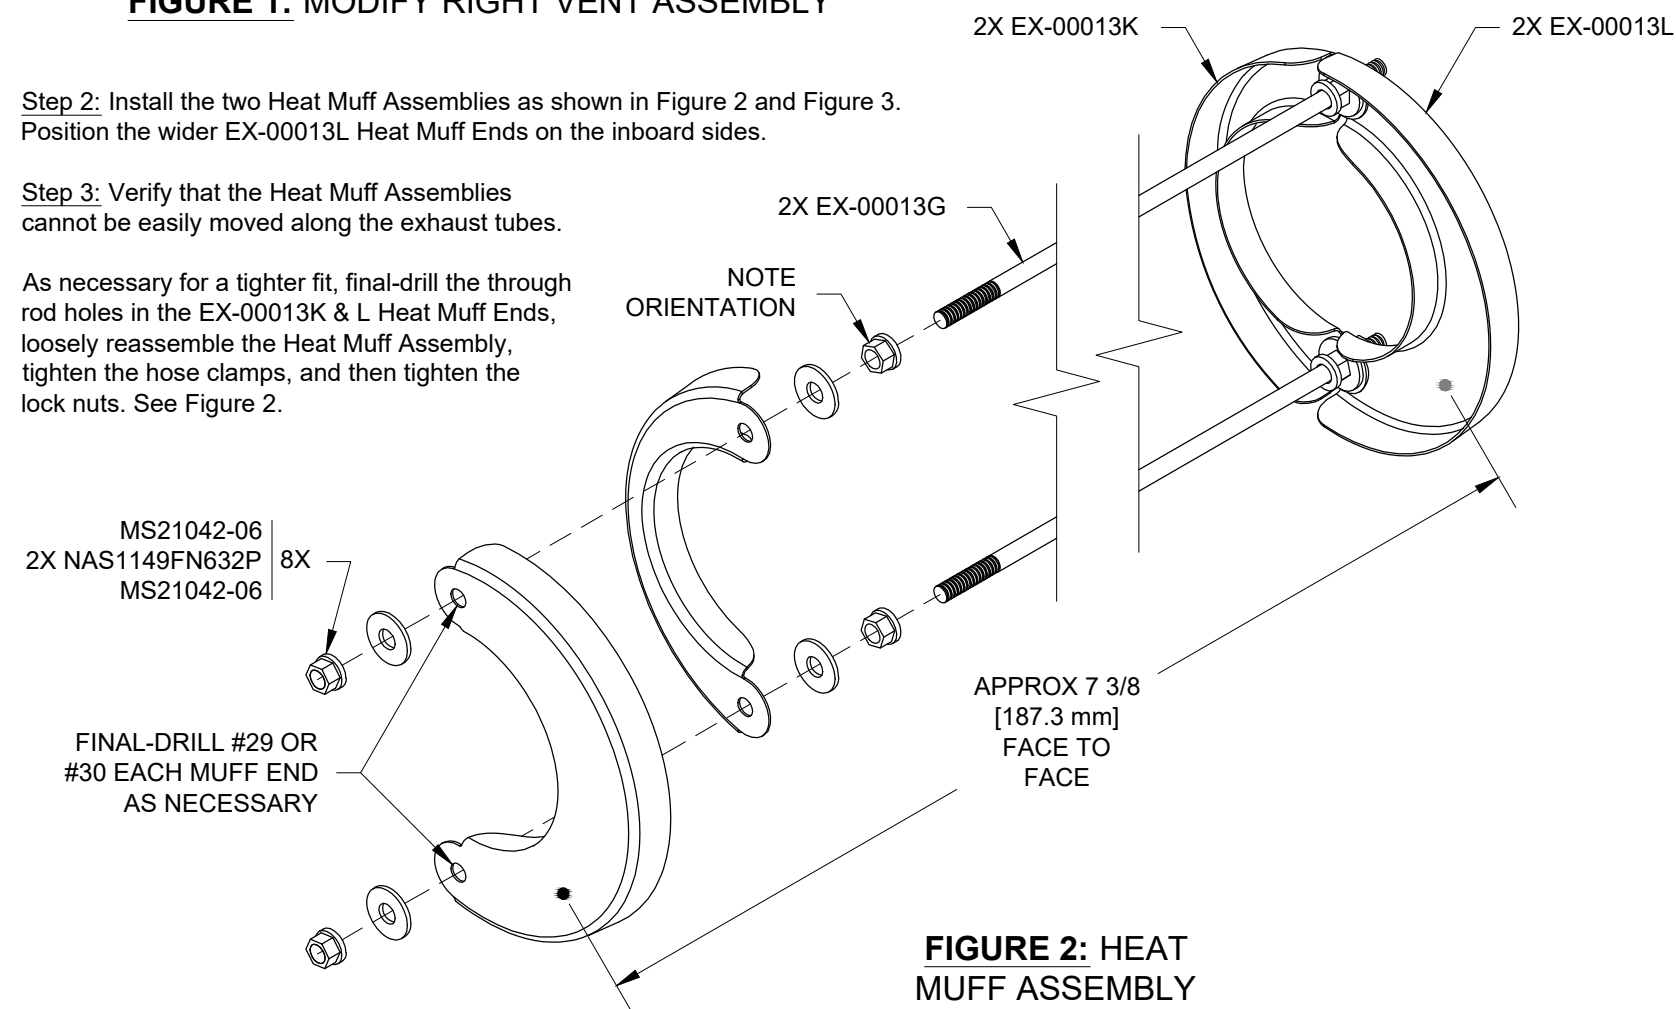
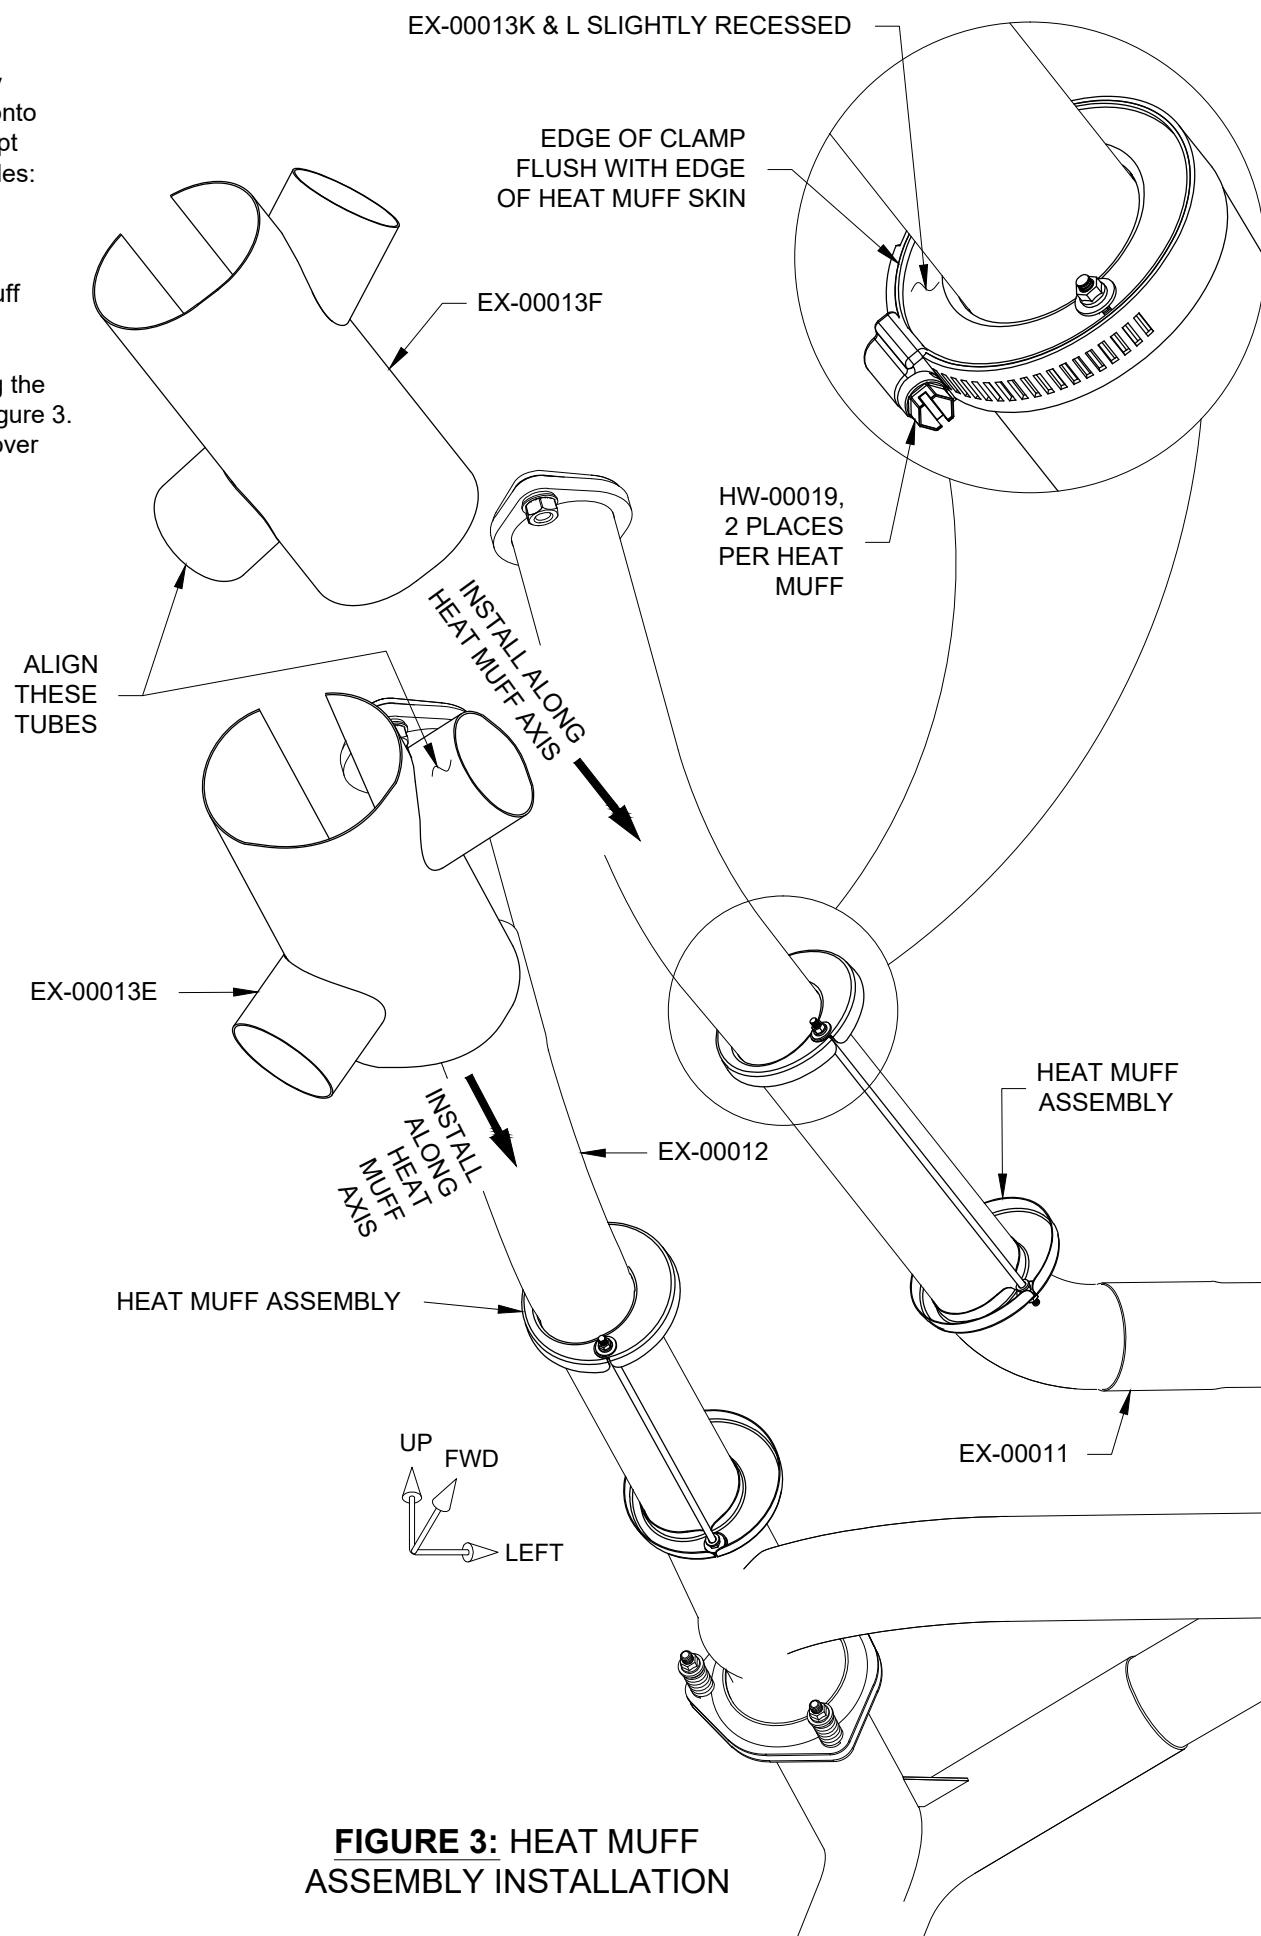

FIGURE 2: HEAT MUFF ASSEMBLY
FIGURE 3: HEAT MUFF ASSEMBLY INSTALLATION
Step 2: Install the two Heat Muff Assemblies as shown in Figure 2 and Figure 3. Position the wider EX-00013L Heat Muff Ends on the inboard sides.
As necessary for a tighter fit, final-drill the through rod holes in the EX-00013K & L Heat Muff Ends, loosely reassemble the Heat Muff Assembly, tighten the hose clamps, and then tighten the lock nuts. See Figure 2.
Step 4: Gently spread, then install the EX-00013F Forward Heat Muff Skin and EX-00013E Aft Heat Muff Skin. Install by sliding the skin along its axis, over and onto the Heat Muff Assemblies. Do not attempt to install the skins from the bottom or sides: over-spreading the skins will cause permanent deformation. See Figure 3.
As closely as possible, align the heat muff skin tubes called-out in Figure 3.
Step 5: Secure the heat muff skins using the clamps called out in the detail view of Figure 3. Position the screw portion of the clamp over the seam in the heat muff skins.